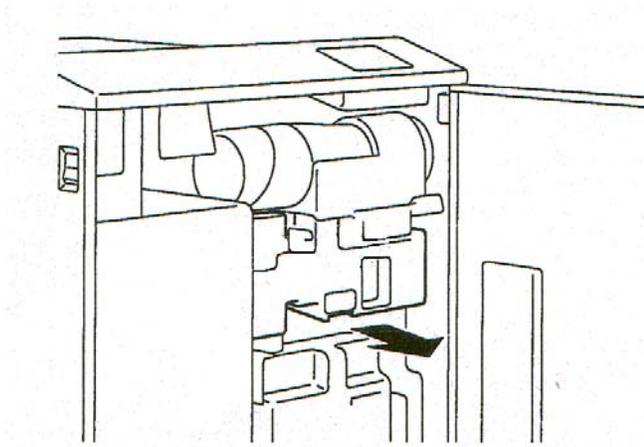

Figure 5-3
1. Open the front door and slide open the EP Drawer (Figure 5-3.)